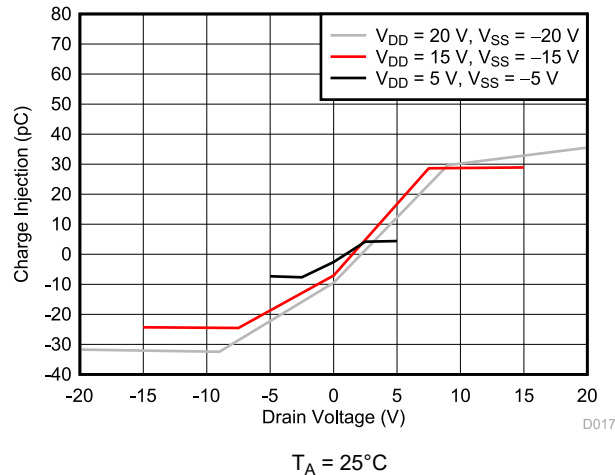

图 10-3. Charge Injection vs Drain Voltage
The low on and off leakage currents of TMUX7208 and ultra-low charge injection performance make this device ideal for implementing high precision industrial systems. The TMUX7208 contains specialized architecture to reduce charge injection on the drain side (D) (see セクション 9.3.7 for more details). 図 10-3 shows the plot for the charge injection versus source voltage for the TMUX7208.